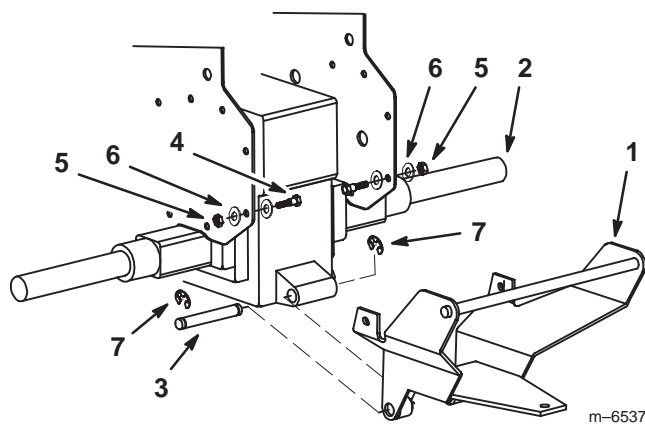

Figure 4
1. Install the lower part of the quick hitch to the tractor using the pin and hardware that held the draw bar hitch to the tractor (Fig. 4).
2. Install the upper part of the quick hitch to the tractor with 2 bolts (3/8 x 1-1/4 inch), 4 flat washers (7/16 inch), and 2 locknuts (3/8 inch) (Fig. 4).